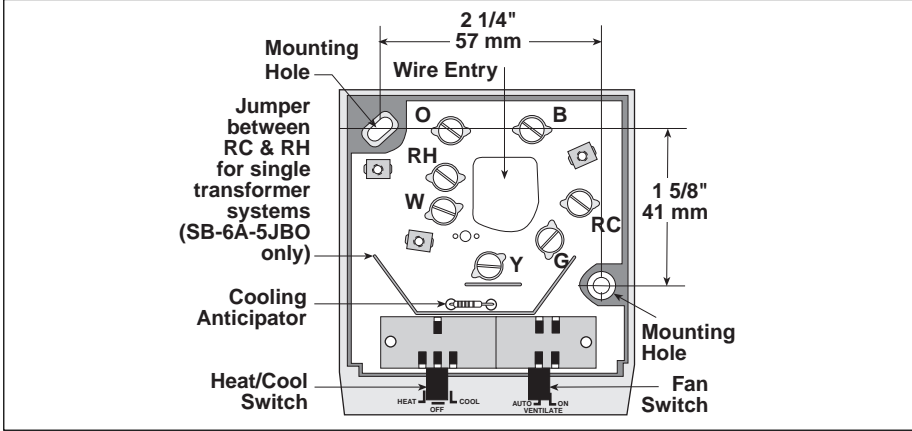

Figure 3. T'stat Sub-base/Front View
5. Insert wires through wire entry of sub-base (see Figure 3) and connect to respective screw terminals. Tighten all screws securely.
\*\* For Sub-base SB-6A-5JBO Only: for two transformers, remove jumper wire (see Figure 3) for independent circuit operation.